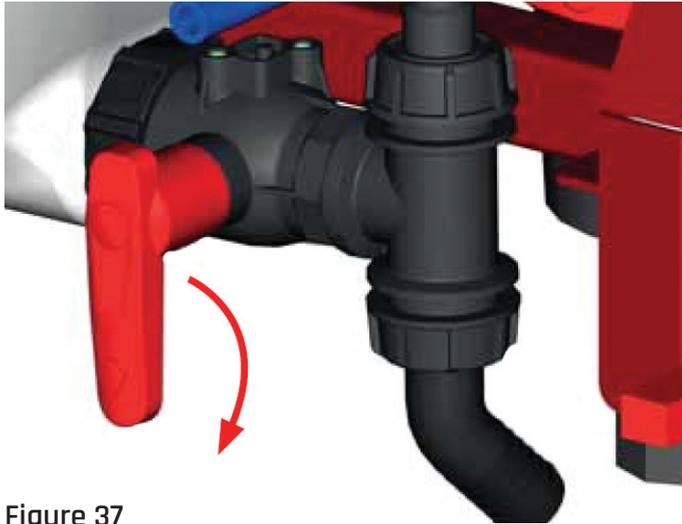

Figure 37
2. The suction valve will be closed which is located under the mixer. **(Figure : 37)**